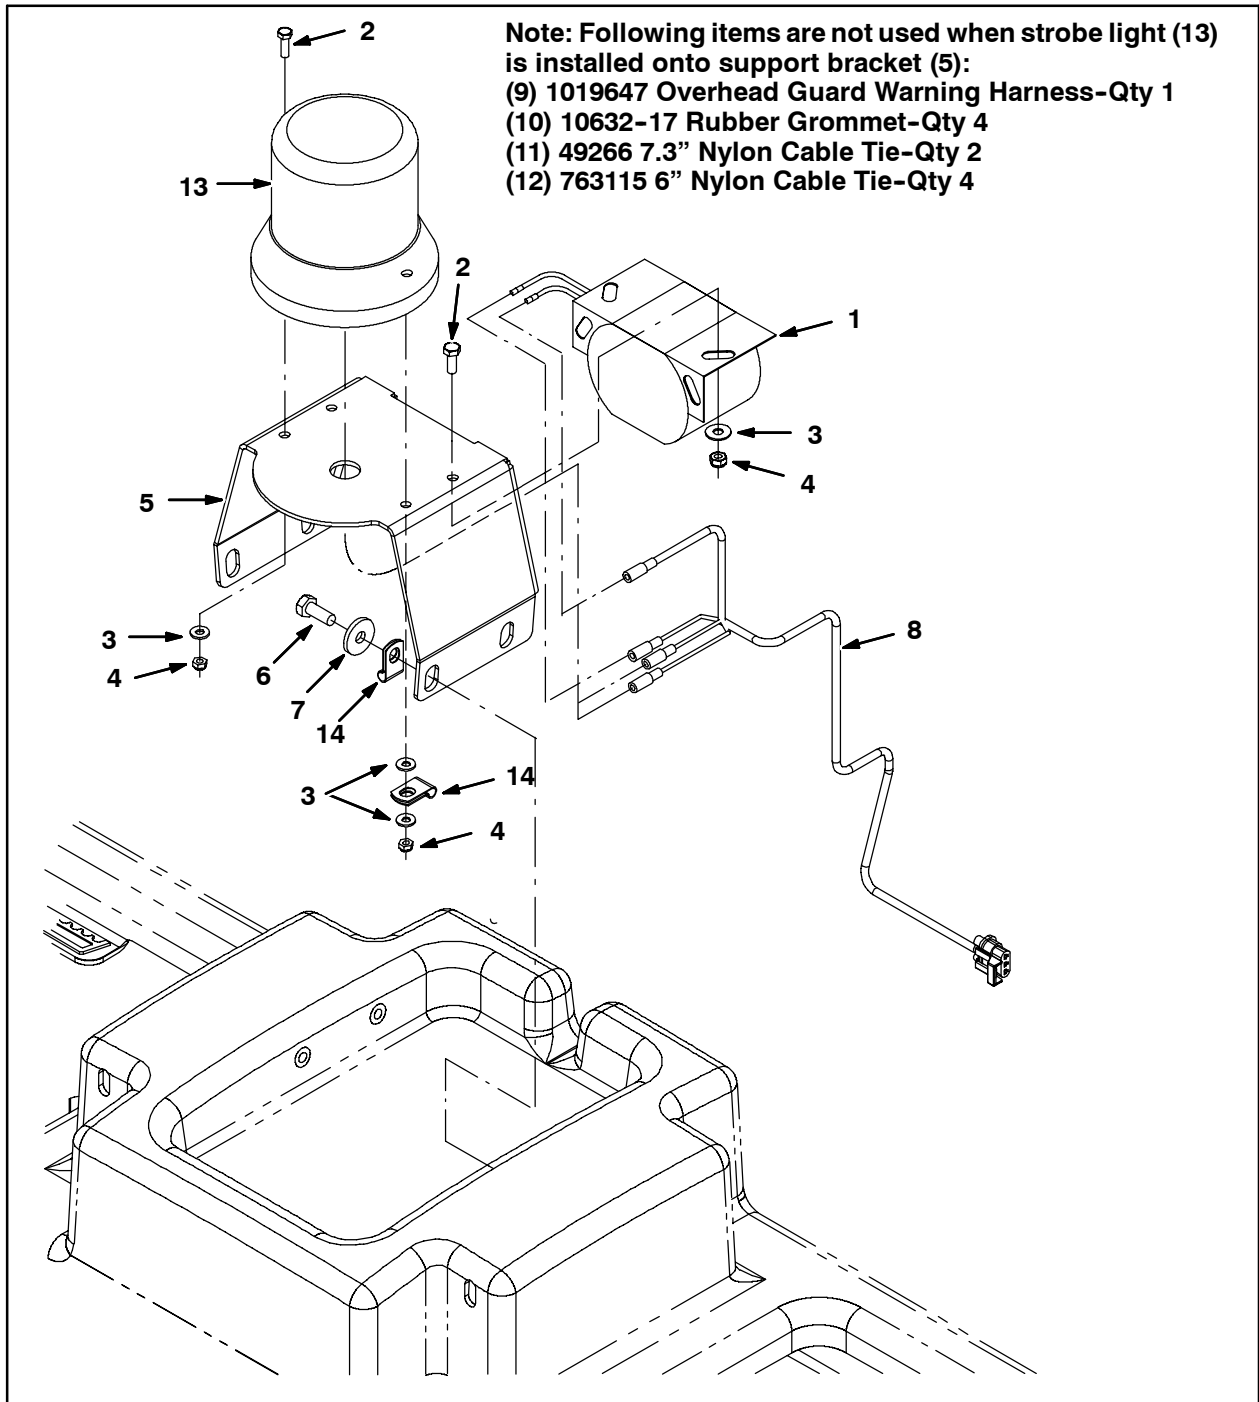

FIG. 8
5. Route the warning/backup harness (8) through the notch in the solution tank and install a cable clamp (9) onto the harness. Refer to Fig. 8.